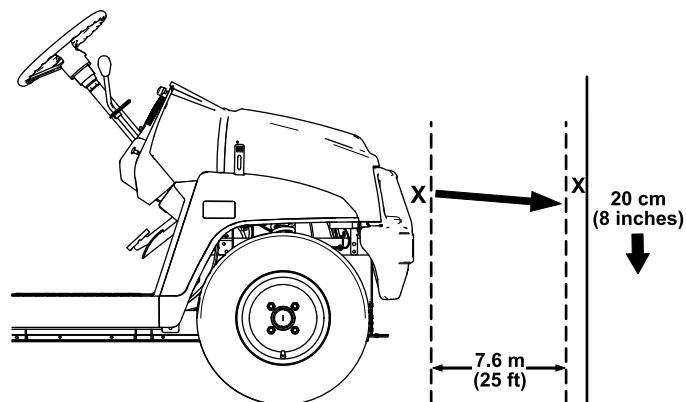

Figure 40
- Park the machine on a level surface with the headlights approximately 7.6 m (25 ft) from a wall (Figure 40).
The brightest part of the headlight beam should be 20 cm (8 inches) below the mark placed on the wall (Figure 40).